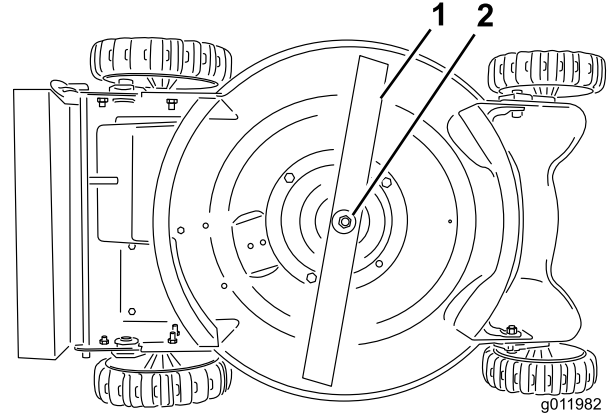

Figure 12
4. Remove the blade by turning the blade bolt counterclockwise (Figure 12).